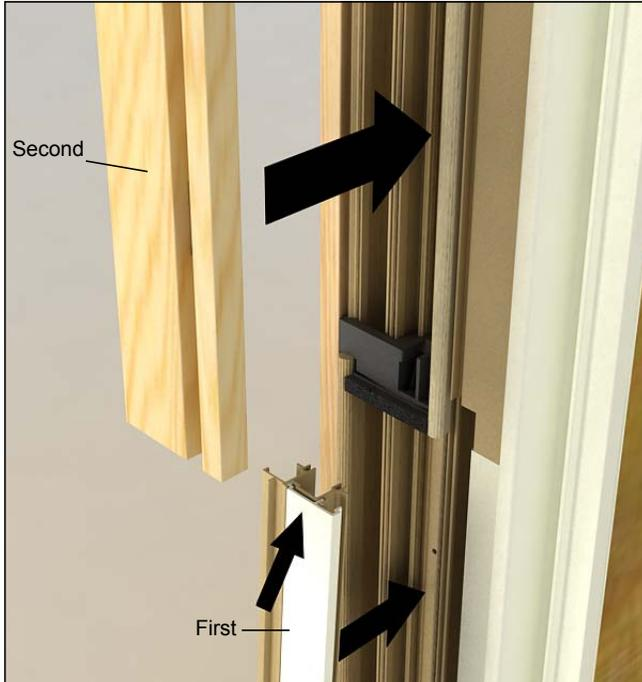

Figure 6
- Replace the covers. See figure 6. Operation of unit may be affected if components are not seated properly.